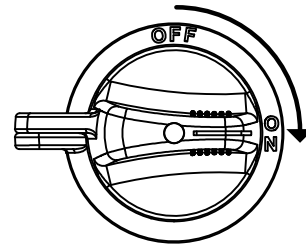

Figure 1. Battery Switch (ON)
2. Place the **Battery switch** (Figure 1) in the **ON** position.